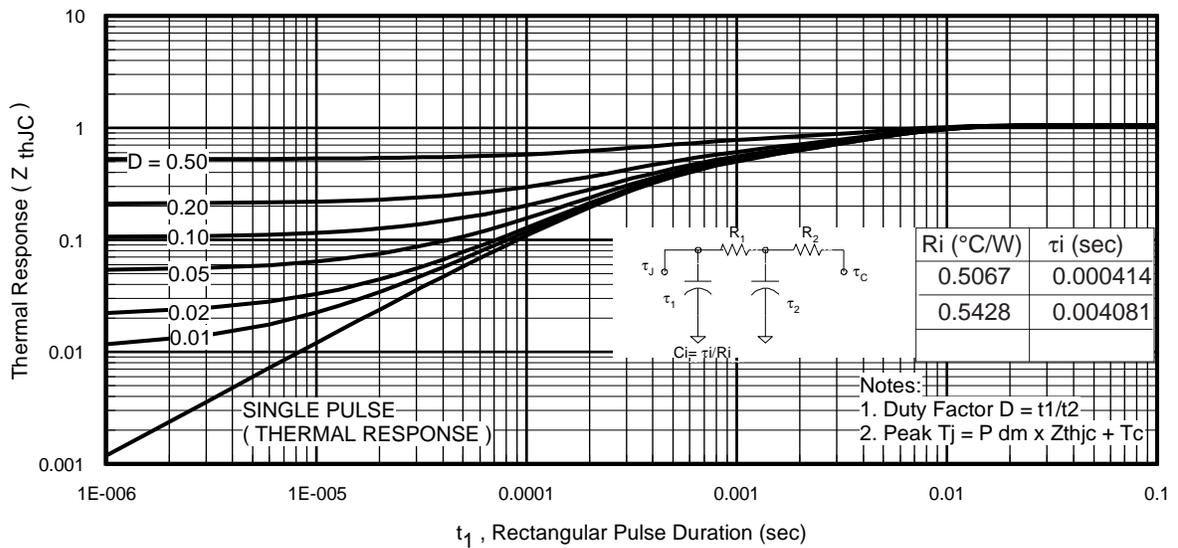
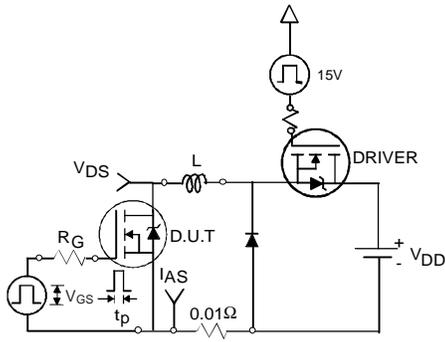

Fig 11. Maximum Effective Transient Thermal Impedance, Junction-to-Case
Fig 12a. Unclamped Inductive Test Circuit
3. Equation below based on circuit and waveforms shown in Figures 12a, 12b.
$Z_{thJC}(D, t_{av})$ = Transient thermal resistance, see figure 11)
- ① Repetitive rating; pulse width limited by max. junction temperature. (See fig. 11).
- ② Limited by T_{Jmax} , starting $T_J = 25^\circ\text{C}$, $L = 0.16\text{mH}$, $R_G = 25\Omega$, $I_{AS} = 42\text{A}$, $V_{GS} = 10\text{V}$. Part not recommended for use above this value.
- ③ Pulse width $\leq 1.0\text{ms}$; duty cycle $\leq 2\%$.
- ④ C_{oss} eff. is a fixed capacitance that gives the same charging time as C_{oss} while V_{DS} is rising from 0 to 80% V_{DSS} .
- ⑤ Limited by T_{Jmax} , see Fig.12a, 12b, 15, 16 for typical repetitive avalanche performance.
- ⑥ This value determined from sample failure population. 100% tested to this value in production.
- ⑦ When mounted on 1" square PCB (FR-4 or G-10 Material). For recommended footprint and soldering techniques refer to application note #AN-994